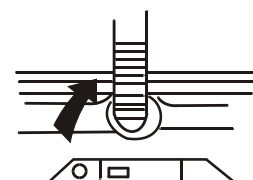

Figure 4
- Dismantle the drain hose fixing clamp. Take out the drain hose from the fixing groove. Extend it from the rear side as per the direction of the arrow. (When the drain hose is extended from the rear side, it can be hung on the point for drain hose at the two sides of the cabinet.) (See to Figure 4).